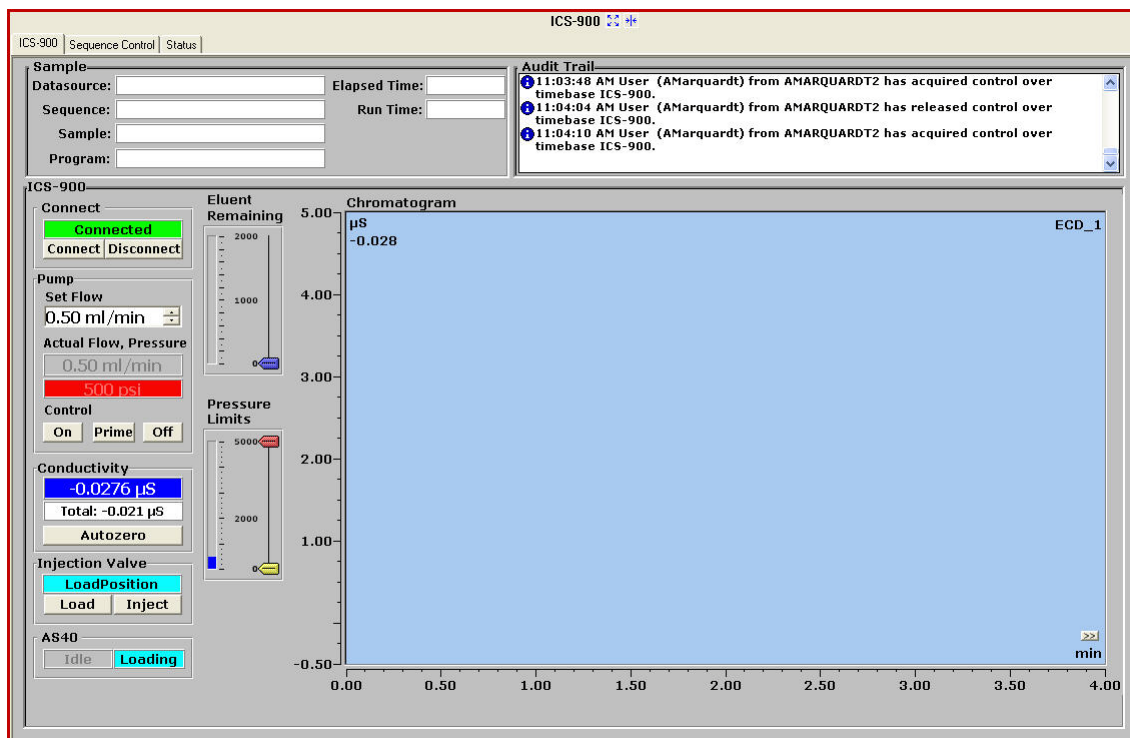

Figure 24. Dionex ICS-900 Control panel on the panel tabset
3. Click the **Dionex ICS-900** tab on the panel tabset to view the Dionex ICS-900 Control panel (see Figure 24).
1. With the waste valve open, click **Prime** on the Dionex ICS-900 Control Panel (see Figure 24). The pump will begin pumping at approximately 3 mL/min.